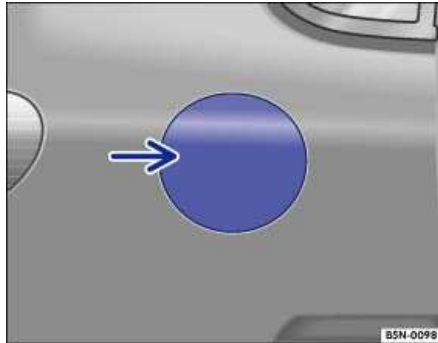

Fig. 2 Rear right side of the vehicle: Opening the fuel filler flap.
- Press on the left side of the fuel filler flap ⇒ Fig. 2 (arrow).